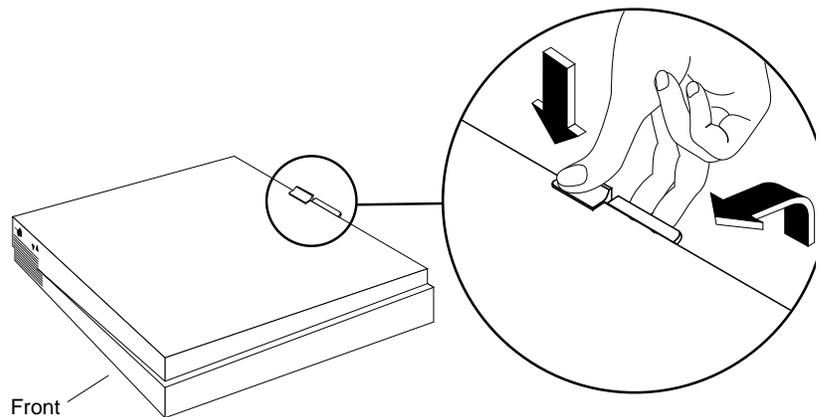

Figure 1-3 Removing the top cover of the Indy workstation
- Figure 1-3** Removing the top cover of the Indy workstation 6
- Facing the front of the Indy workstation, place your right thumb on the small channel at the back of the cover, and your second and third fingers under the finger ledge, as shown in Figure 1-3.